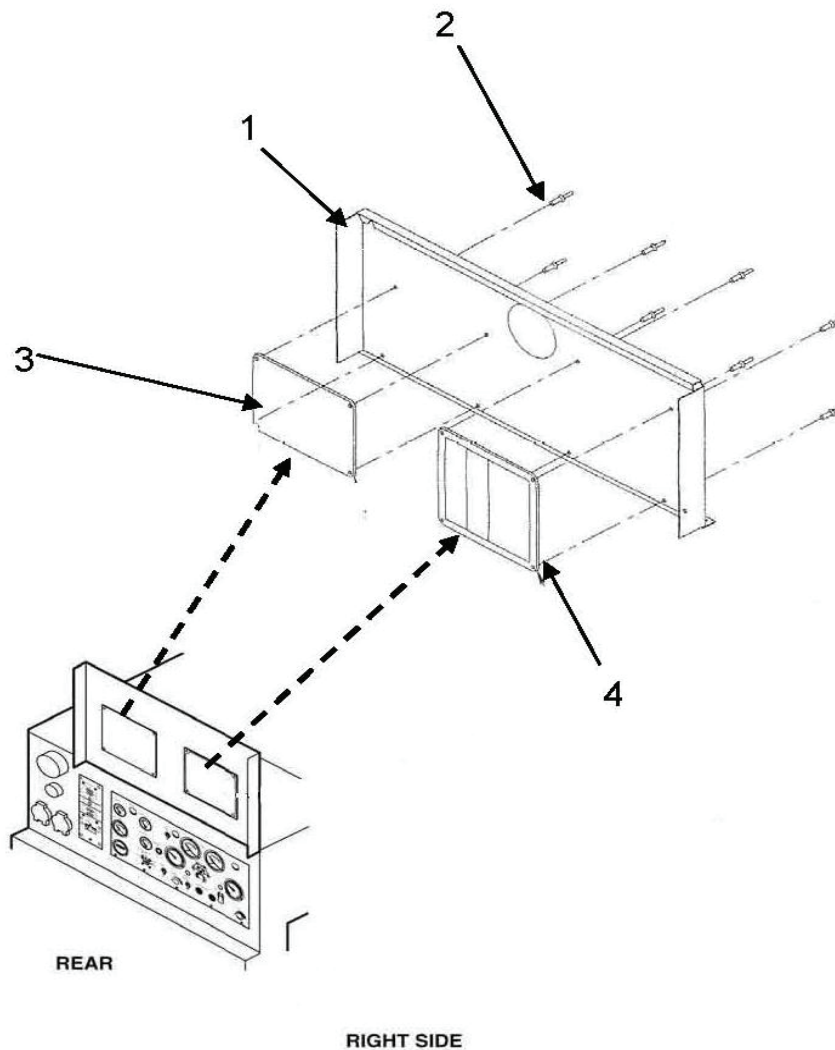

Figure 6-25. Function Codes Plate/Operating Instruction Plate Maintenance.
- a. Lift generator control box door (1, Figure 6-25).
- b. Using function code plate (4) as a template, drill four 1/8" inch holes.
- c. Install function codes plate (4) using four blind rivets (2). Rivet head shall be on the outside of unit.